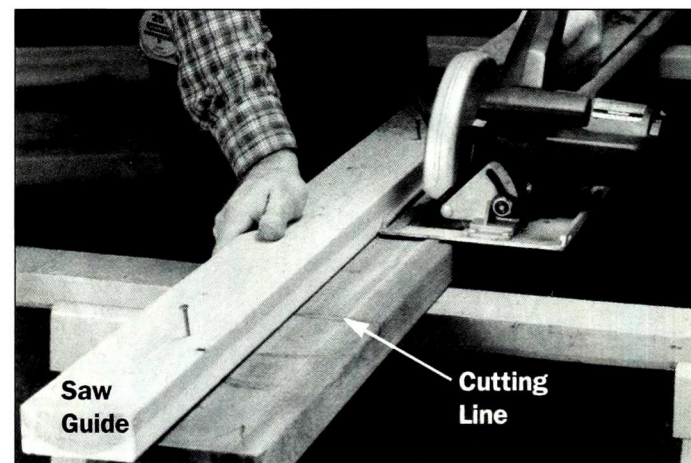

Figure 3: Cut along the chalk mark with your circular saw. Tack a saw guide to the deck board for a straighter cut.
- Some pros can cut accurately freehand, but you and the pros will get better results if you run your saw along a straight guide board tacked to the deck board (Figure 3).